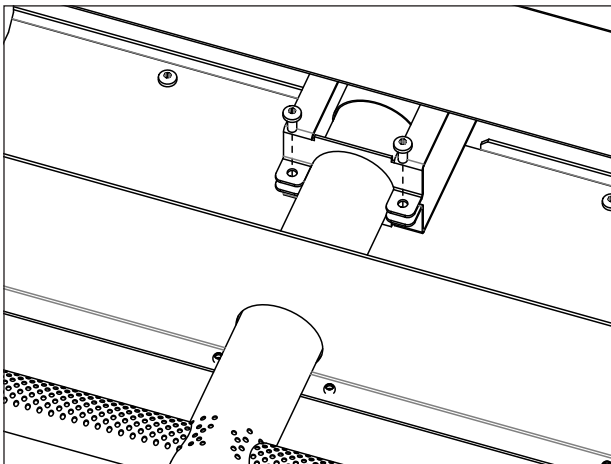

Figure 7: Orifice Clamp Screws
4. Remove the two (2) T-20 screws securing the orifice mount clamp onto the burner (see Figure 7).